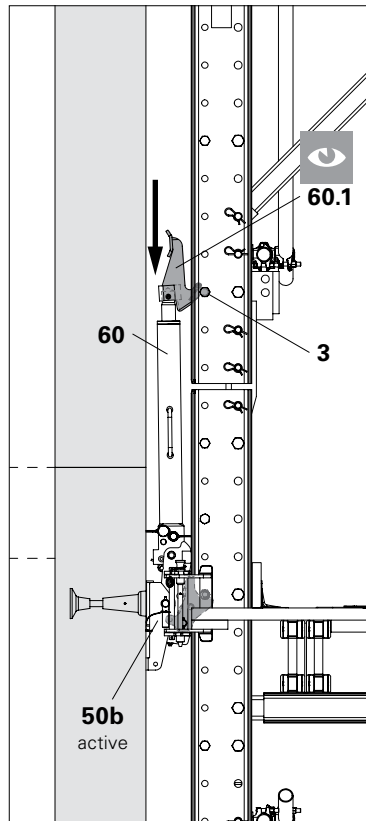

Fig. D7.10
(Fig. D7.10)
1. Stop the climbing procedure and place the climbing unit on the middle Climbing Shoes (50b, see Fig. D7.10) so that the complete weight of the unit is supported.